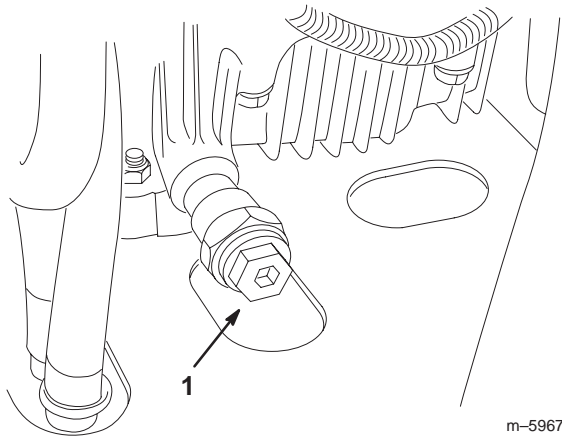

Figure 39
5. Place a pan under the oil drain hole in the engine frame. Remove the oil drain plug (Fig. 39).